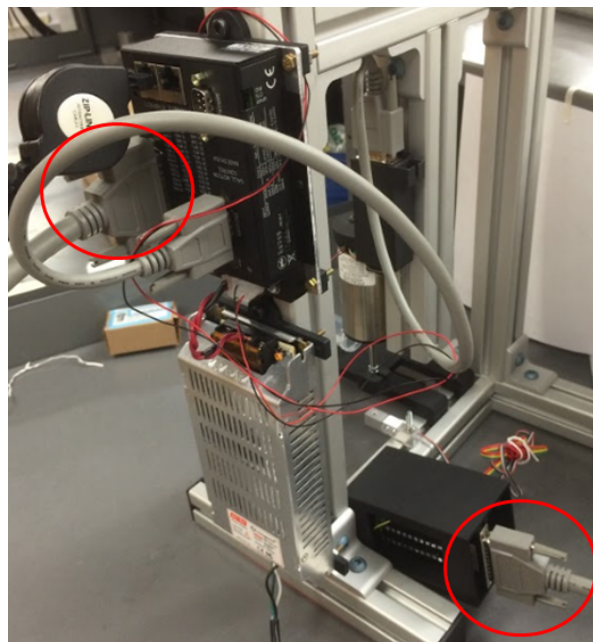

Figure 25. 44-Pin Cable going from 44-Pin Adapter to Motion Controller
1. Connect the 44-Pin Adapter to the Motion Controller using the 44-Pin Cable (3ff), (Figure 25).